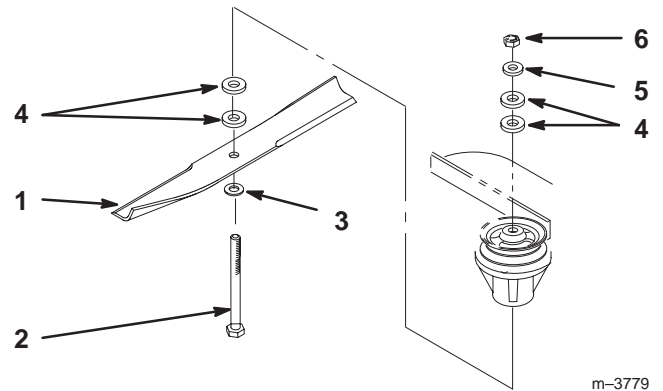

Figure 18
3. Hold the blade bolt and remove the nut (Fig. 18).
4. Slide the bolt down through the spindle, and change the spacers as needed (Fig. 18).
5. Insert a bolt, add extra spacer(s), and secure them with a thin washer and a nut (Fig. 18).